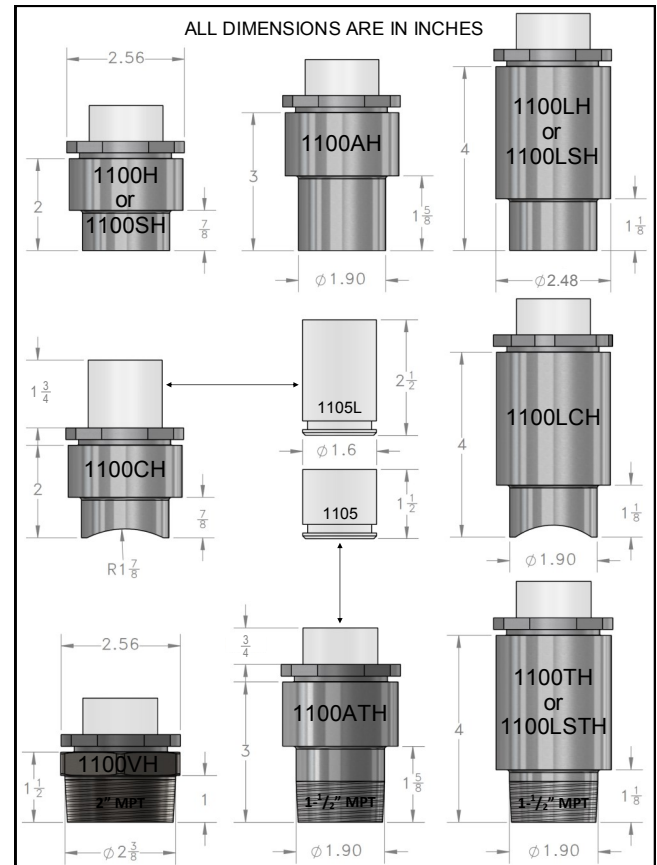

Figure 5: Level Eye Housings and Dimensions
H.A. Phillips offers a wide variety of Level Eye configurations to accommodate most refrigerant viewing situations. Some of the common configurations are summarized in Table 1 and all the available options are illustrated in Figure 5.